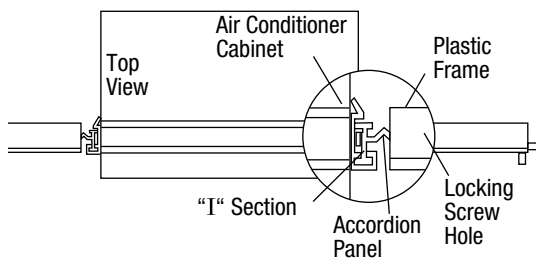

FIG. 10
3. Insert top and bottom legs of accordion panel frame into channel in the top angle and bottom rail. (See Fig. 10) Do this on both sides.
4. Insert washer head locking 7/16" screws (2) into holes in top leg of accordion panel frame. (See Step 6 on next page.) Do not totally tighten. Allow leg to slide freely. Screws will be tightened after Step 6.